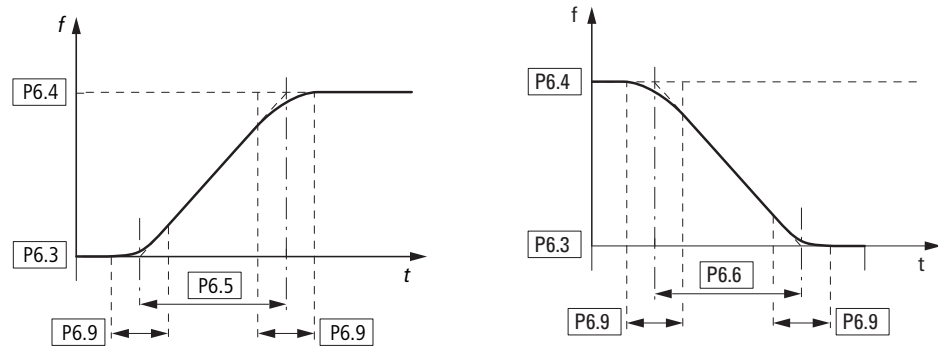

Figure 104: S-formed curve for acceleration and deceleration ramps
0.1 - 10.0 s	Time-graded transition to start and end of the acceleration ramp (P6.5) and deceleration ramp (P6.6). The time set here applies for both ramps (see Figure 104).